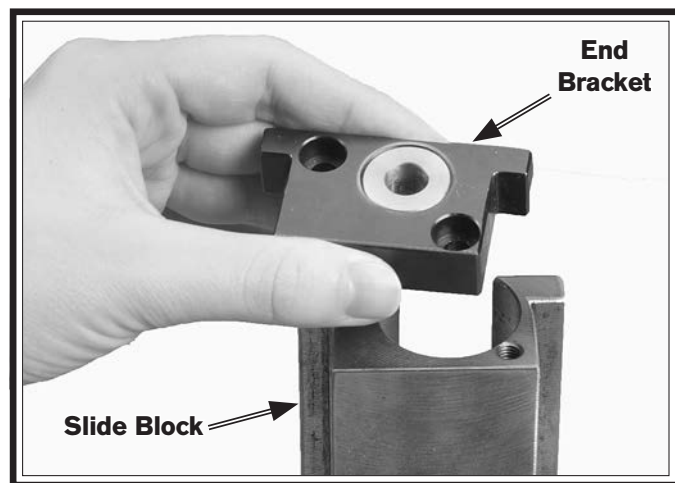

Figure 10. End bracket removed from slide block.
- 11.** Unthread the two cap screws that secure the end bracket (see **Figure 10**) and remove it from the slide block.